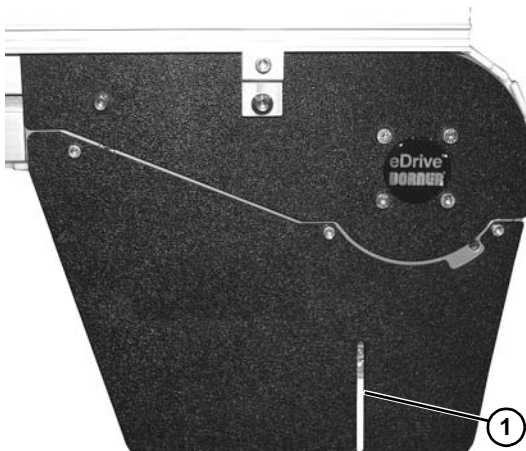

Figure 111
After shortening chain, ensure there is visible slack in chain (while running) at catenary drive tails. If chain is not visible in cover slot (Figure 111, item 1) inspect from end.